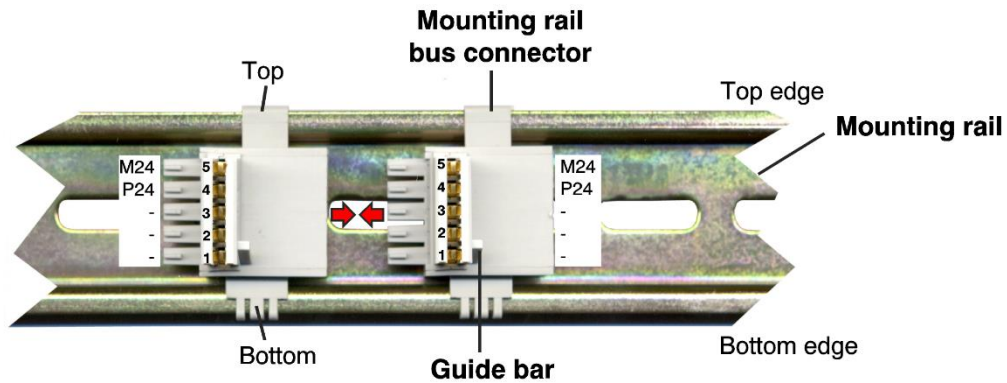

Figure 7: Mounting rail with bus connector
3. Swivel the ECX module onto the mounting rail in pressing the module downwards according to the arrow as shown in Figure 7. The housing is mechanically guided by the DIN rail bus connector.